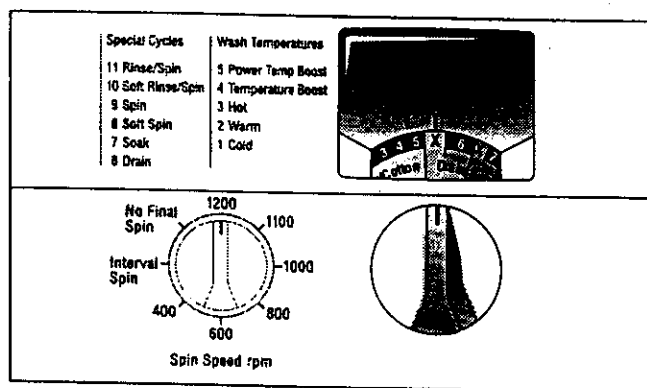

Figure 16.
- Set the cycle selector to any of the "X" settings, see Figure 16. The indicator light above the "START" button will begin to flash.